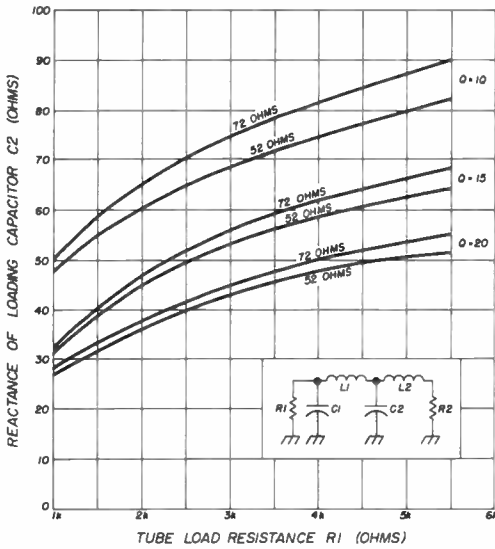

fig. 18. Reactance of the loading capacitor C2 as a function of tube load resistance for pi-L networks.
6. Find the reactance of the loading capacitor (C2) from fig. 18. In this case, the reactance is about 47 ohms.